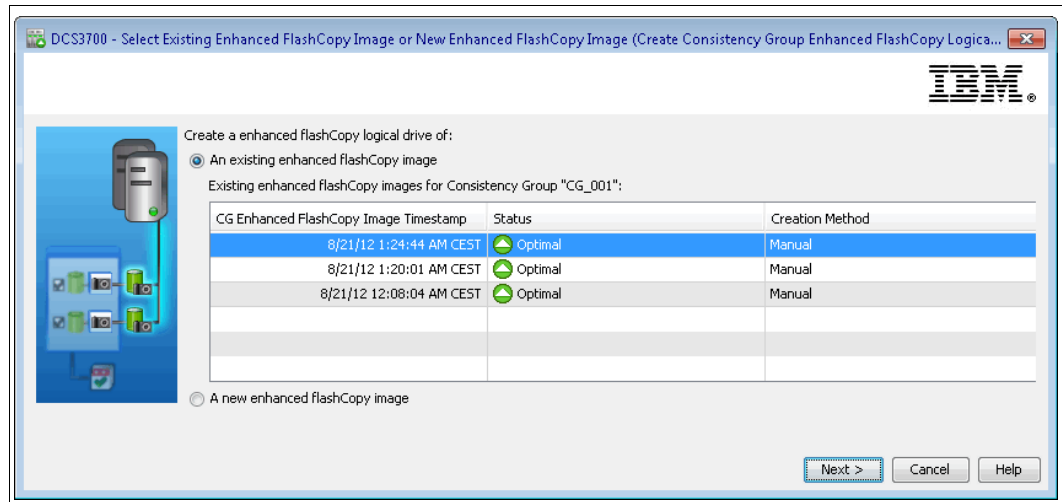

Figure 8-70 Create Consistency Group Enhanced FlashCopy Logical Drive
1. Choose the consistency group Enhanced FlashCopy image for which you want to create an Enhanced FlashCopy logical drive. Do one of the following actions (Figure 8-70 on page 296):